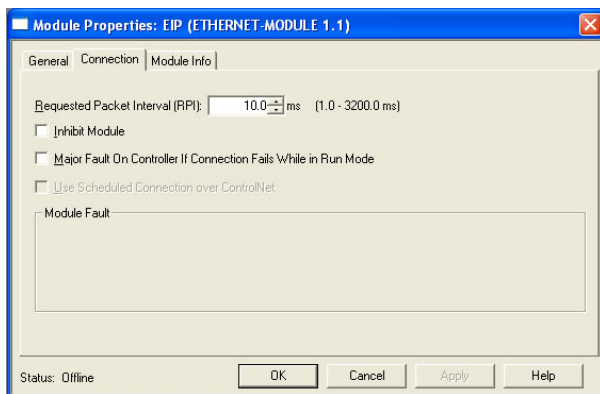

Figure 87: Interface Card Module Properties Connection Tab
- 5) You should now see the new module (named “ETHERNET-MODULE Fuji_Inverter”) in the 1756-ENBT/A branch under the I/O Configuration in the controller organizer view. Right click on this new module, choose “Properties”, and select the Connection tab. Refer to Figure 87.